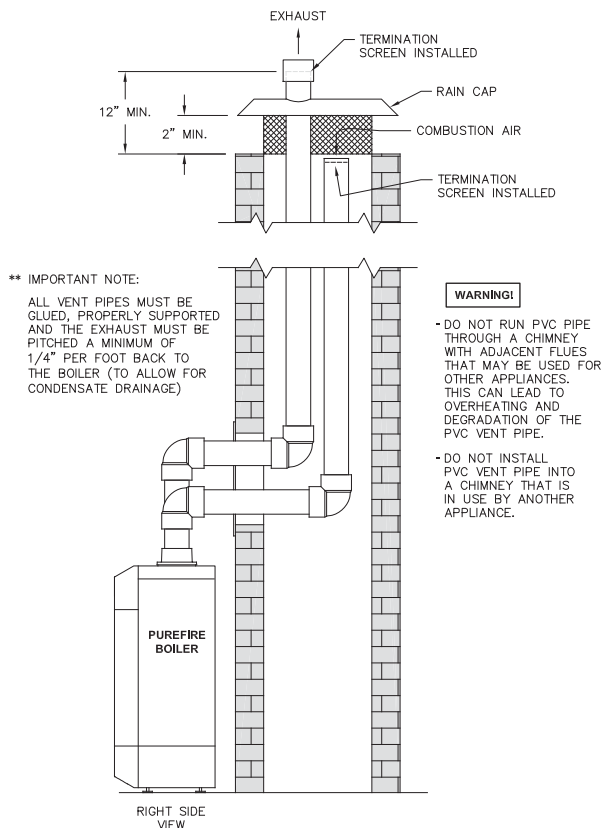

Figure 3.10: Venting Through a Chimney Using Outside Air
- Figure 3.10 shows an option for routing the exhaust and air inlet piping through an unused chimney.